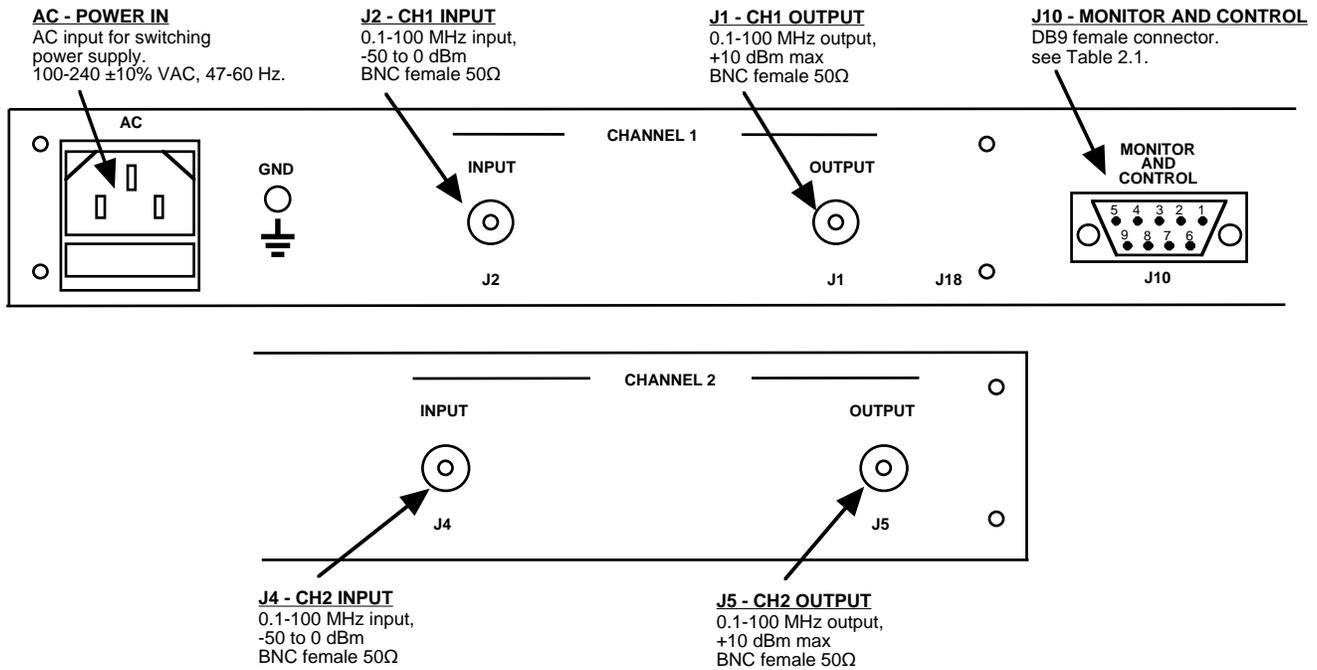

FIGURE 2.2 Rear Panel I/Os
2.2 Rear Panel Input/Output Signals - Figure 2.2 shows the input and output connectors on the rear panel.
1. Connect -50 dBm to 0 dBm signals to CH1 IF In, J2, and CH2 IF In, J4 (Figure 2.2)